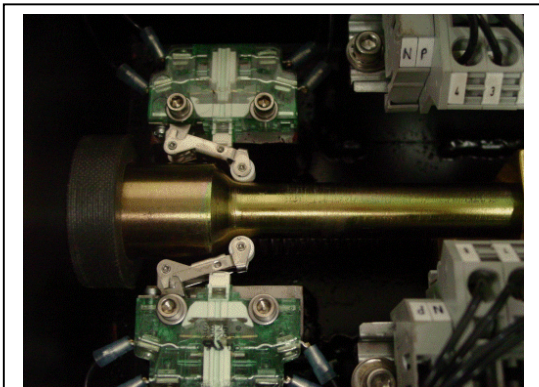
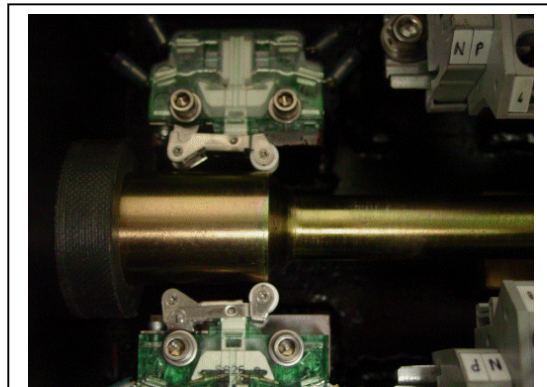

Figure 1: Limit Switch indicating
Figure 2: Limit Switch w/ Indication “broken”
When the switch points are properly closed and indicating; the SC-100 rod is positioned so that the limit switch is in the “released” position (Figure 1). As the switch points move; the roller on the limit switch travels and is compressed by the moving point detector rod and actuates to open the contacts and break the switch point indication circuits (Figure 2).
2. Adjust the point detector rod so that the normal side limit switches are indicating (Figure 1) and are at least $\frac{1}{4}$ inch from the ramp on the rod.
2. Adjust the point detector rod so that the reverse side limit switches are indicating (Figure 1) and are at least $\frac{1}{4}$ inch from the ramp on the rod.